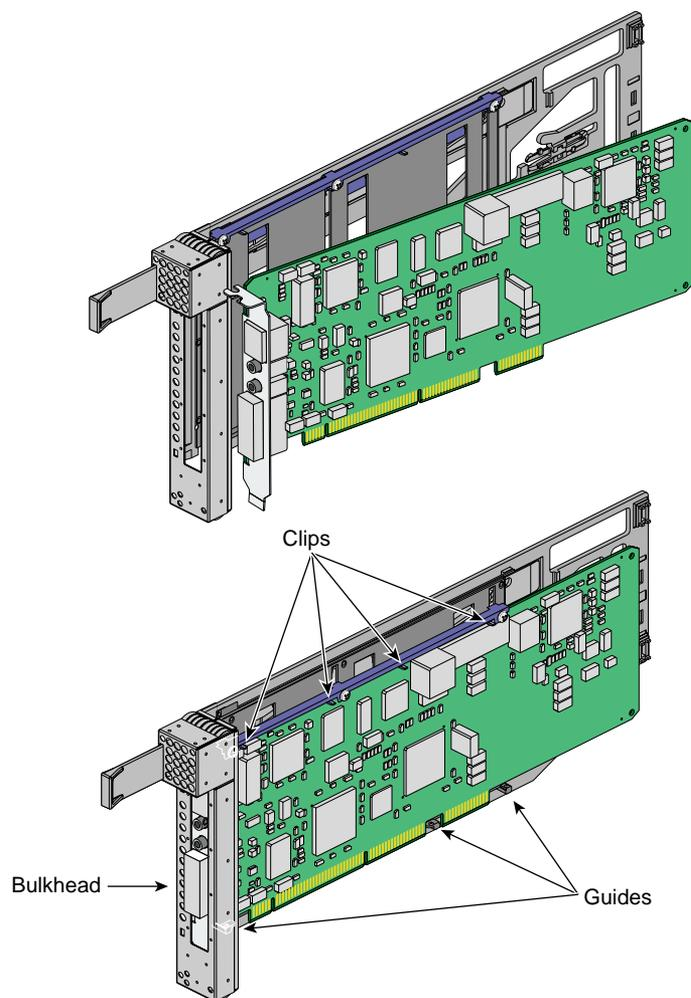

Figure 11 Mounting Card in Carrier
5. Mount the card in the carrier, as shown in Figure 11, so that the following occurs: